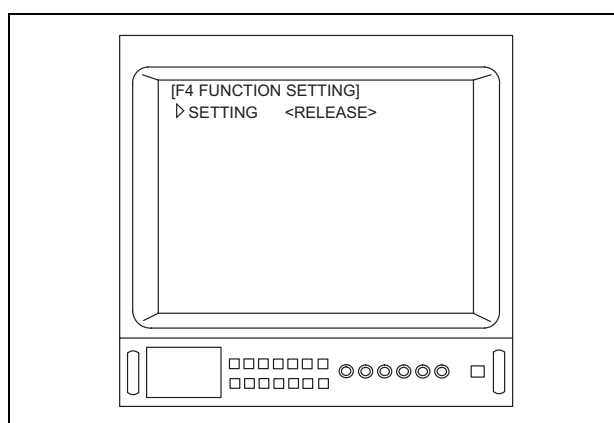

Figure 5.61
1. Depress the “Alt” key and “F4” key on the keyboard at the same time to display the menu (see Figure 5.61).
Depending upon the OTV-S7V's settings, the menus shown in Figures 5.61 and/or 5.62 may appear different from those displayed on the video monitor.